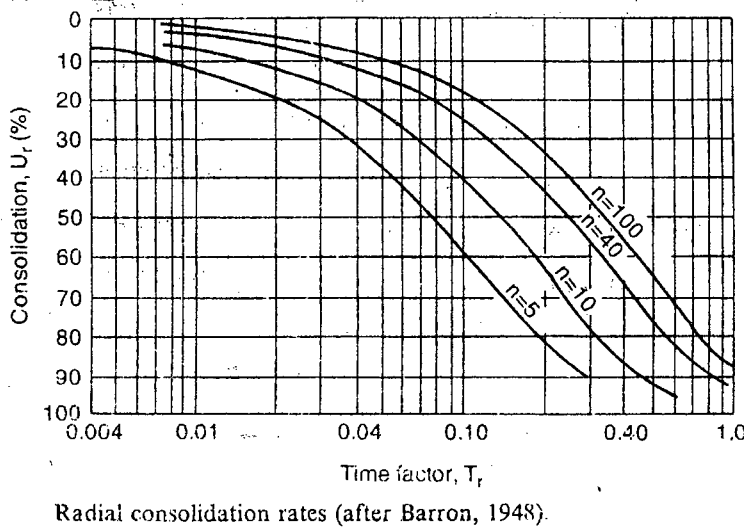

Fig 4. for Q No. 11(c)
(c) It is required to consolidate the soft clay layer formed near the sea coast of Chittagong port by providing sand drains and subjecting the soil to a surcharge load. The depth of compressible stratum is 6 m and rest on an impermeable base. Sand drains of 30 cm diameter are provided in a square grid pattern at 3 m apart. Compute the average degree of consolidation of the clay stratas with sand drains for the time when the degree of consolidation without drain would be equal to 25%. Assume soil is isotropic. Use Fig. 4. (20)